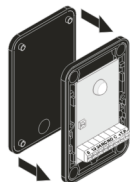

Fig. 5
- 4 - Assemble the seal and the receiver ( Fig. 5 );